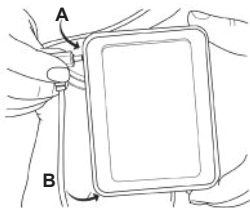

Figure 2
1. Connect battery cable to output power jack (Figure 2, A) on the Power Pack.